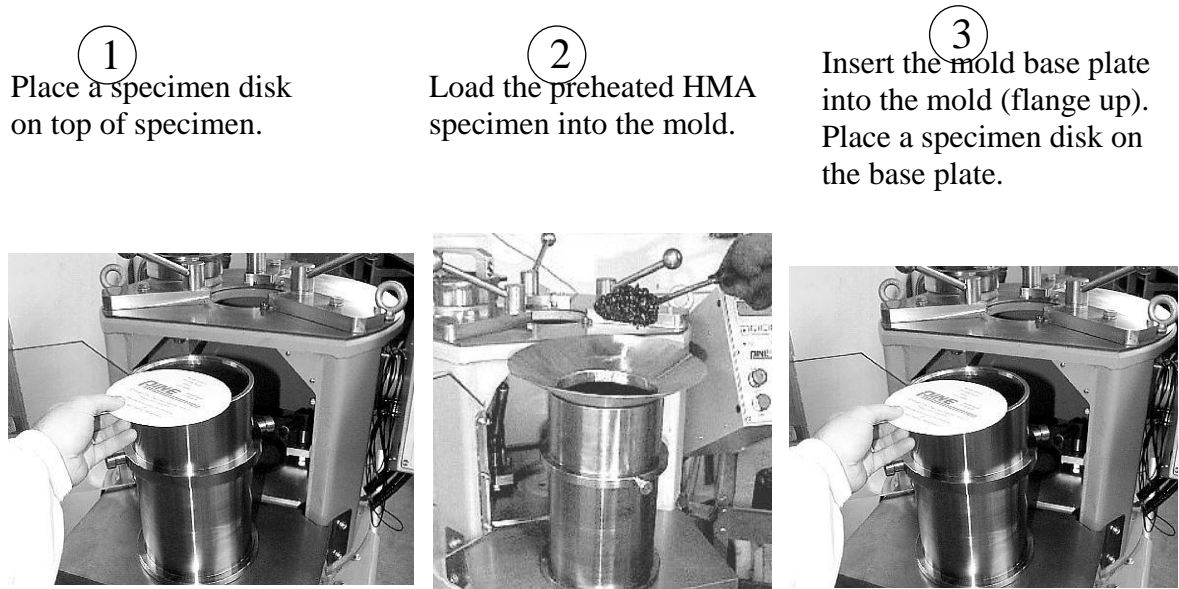

Figure 4.2: Mold Preparation
- ① Prepare the mold (see Figure 4.2).